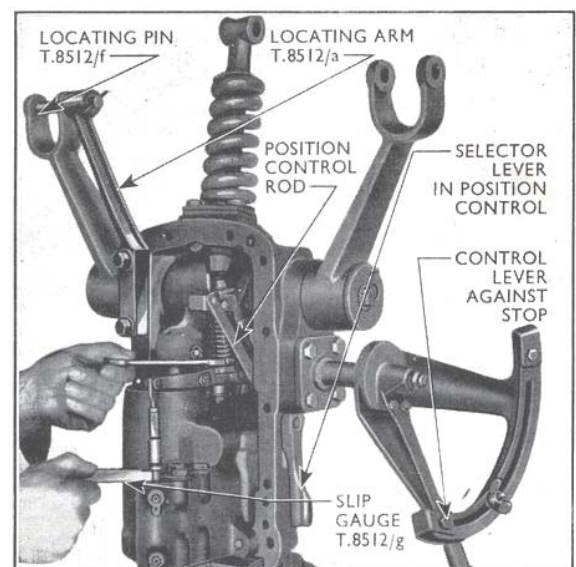

Fig. 14
3. Hold the position control rod locknut and turn the position control rod until the Position Control end of the slip gauge T.8512/g can be just inserted between the control valve and the rear end of the control valve bush. (See Fig. 14.)